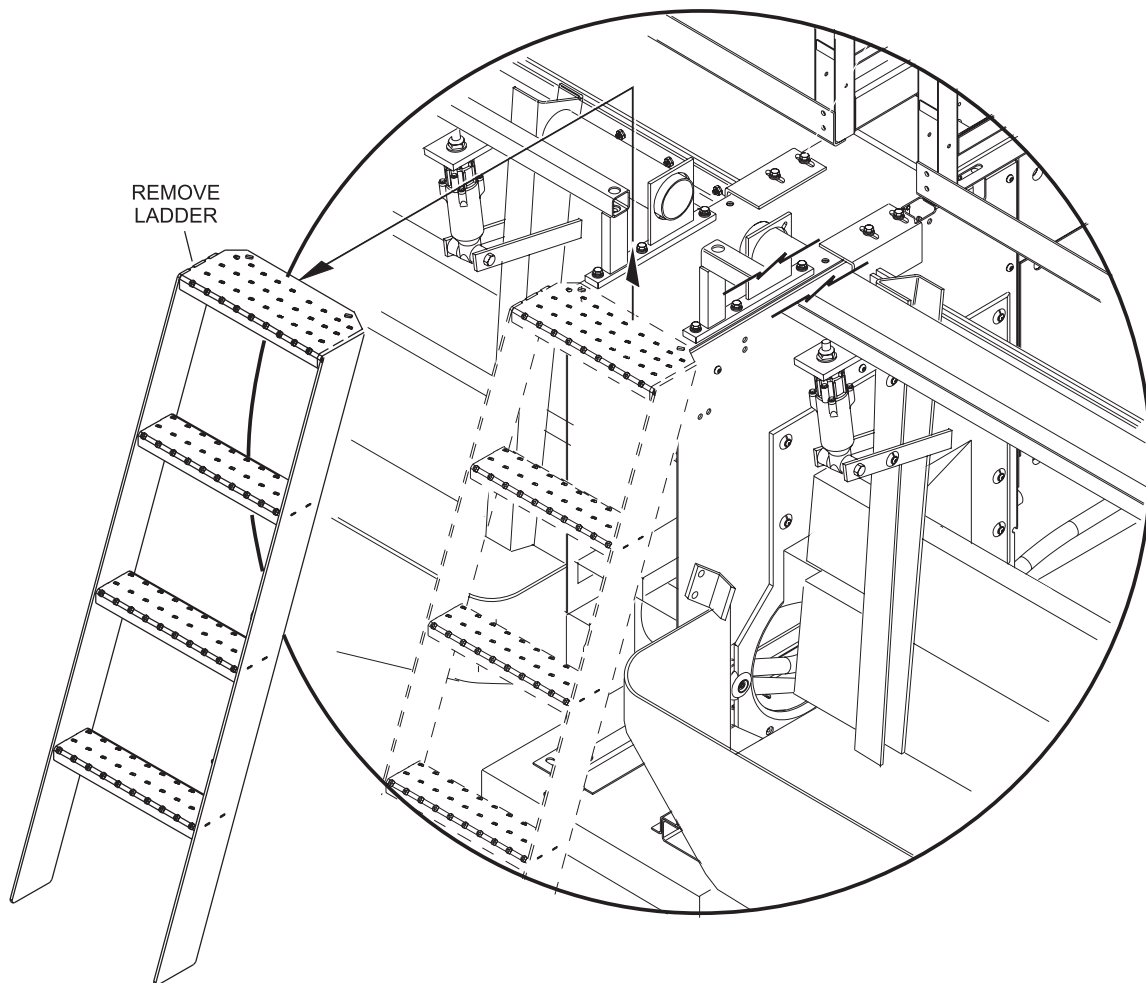

Figure 1
1. Remove ladder from ball box. Refer to *Figure 1*.